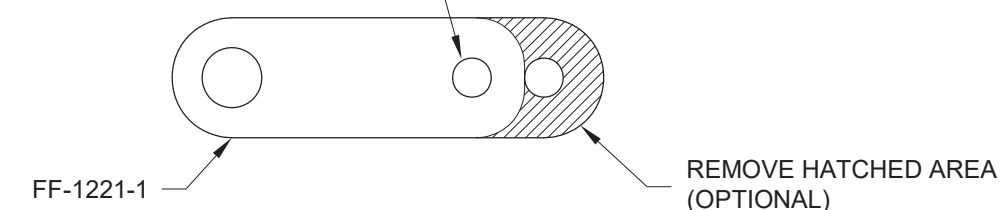

FIGURE 3: FF-1221-1
Step 8 (Optional): Trim the excess from the FF-1221-1 and paint the exposed steel surfaces. See Figure 3.